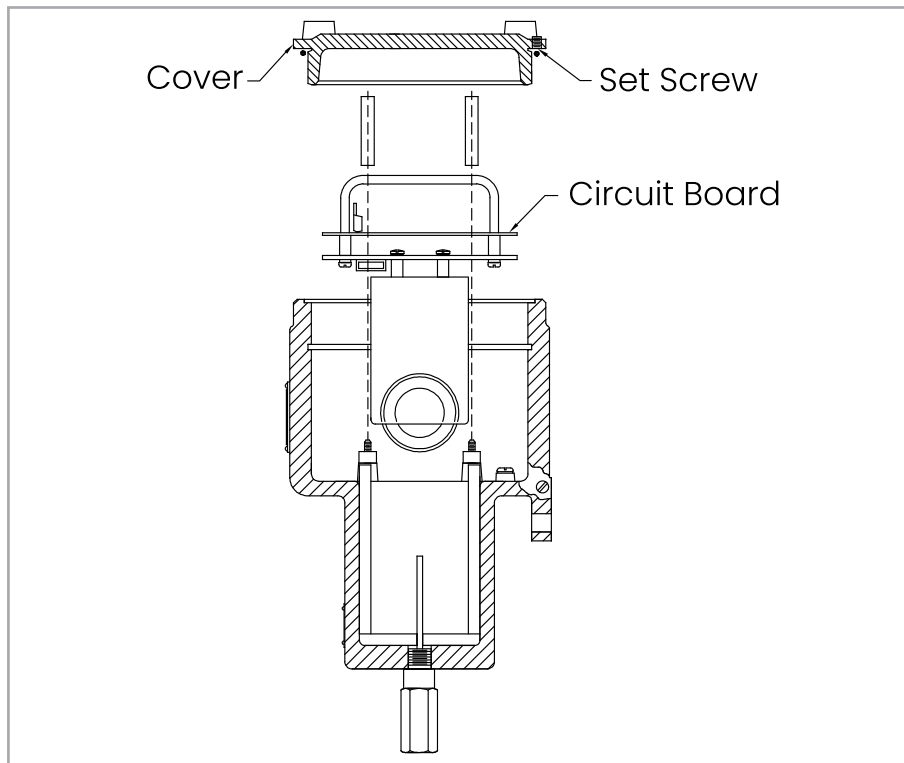
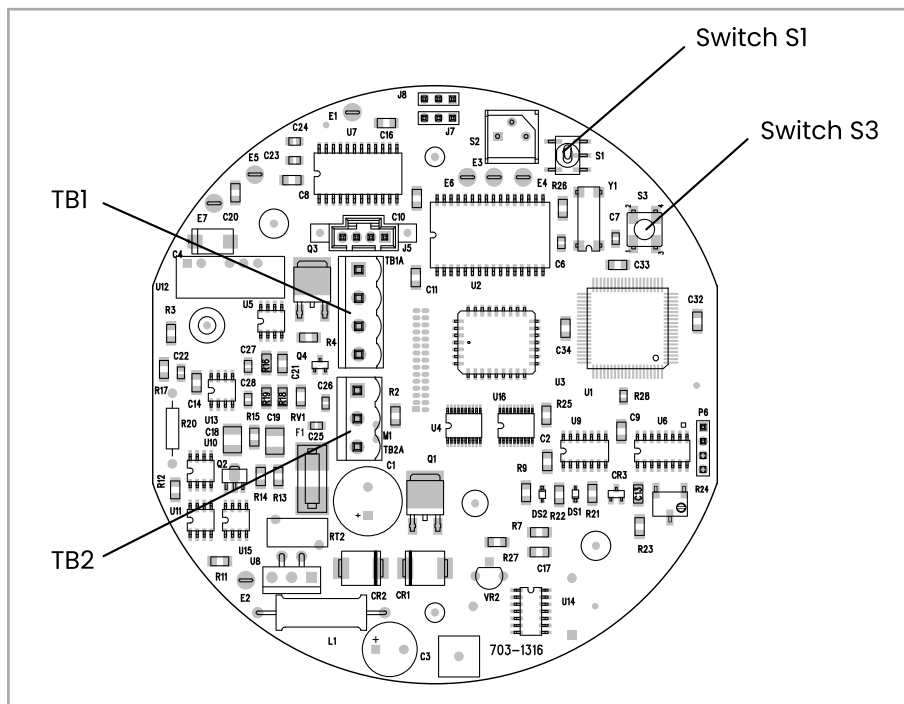

Figure 10: XMO2 Cover, set screw, and PCB
Figure 11: PCB calibration switches
To prepare the XMO2 for a field calibration, refer to *Figure 10* on *page 17* and perform the following preliminary steps:
3. Refer to *Figure 11* on *page 17*, and locate the following items:
**Note:** The XMO2 digital PCB (see Figure 11 below) is located directly below the cover (see Figure 10 above)
3. Using *Figure 11 on page 17* as a guide, locate the Calibration Pushbutton (Switch S3). Depress the Calibration Pushbutton and hold it down for 20 seconds. During this time, the green light below the Calibration Pushbutton will go out.
Using *Figure 11 on page 17* as a guide, locate the Zero/Span Selector (Switch S1). Set the Zero/Span Selector (Switch S1) to position "1" ("Zero").
Using *Figure 11 on page 17* as a guide, locate the Calibration Pushbutton (Switch S3). Depress the Calibration Pushbutton and hold it down for 20 seconds. During this time, the green light below the Calibration Pushbutton will go out.
2. Using Figure 11 on page 17 as a guide, locate the Zero/ Span Selector (Switch S1). Set the Zero/ Span Selector (Switch S1) to position "3" ("Span").
3. Using Figure 11 on page 17 as a guide, locate the Calibration Pushbutton (Switch S3). Depress the Calibration Pushbutton and hold it down for 20 seconds. During this time, the green light below the Calibration Pushbutton will go out.
To prepare for this calibration method, refer to *Figure 10* on page 17 and perform the following preliminary steps: